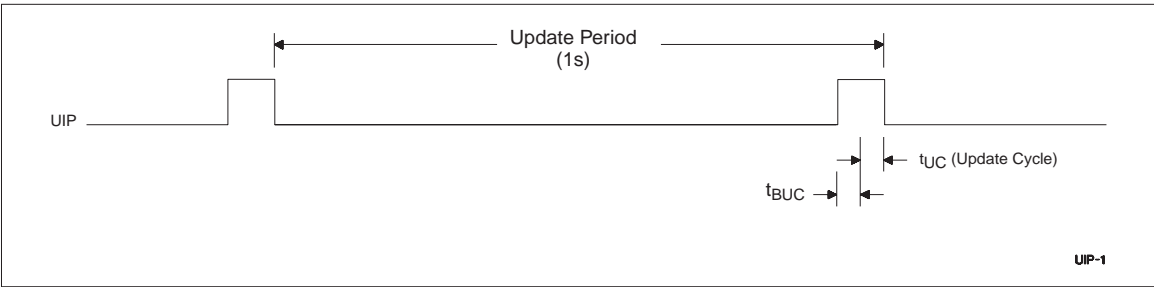

Figure 2. Update Period Timing and UIP
date period (see Figure 2). The alarm flag bit may also be set during the update cycle.
The update-in-progress bit (UIP) in register A is set  $t_{BUC}$  time before the beginning of an update cycle (see Figure 2). This bit is cleared and the update-complete flag (UF) is set at the end of the update cycle.